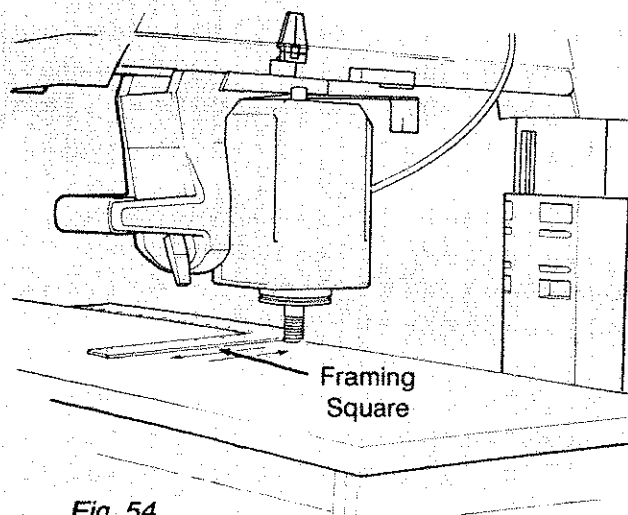

Fig. 54
7. Lay a framing square on the *front table* with the long edge along the back of the *table* and the short edge alongside the *motor arbor*. (Figure 54)
8. Move the framing square toward the *motor arbor* until the arbor and square touch each other. (Figure 54)
If the *motor arbor* moves away from the square or tries to "walk" on top of it, go to step 11. (Figure 54)